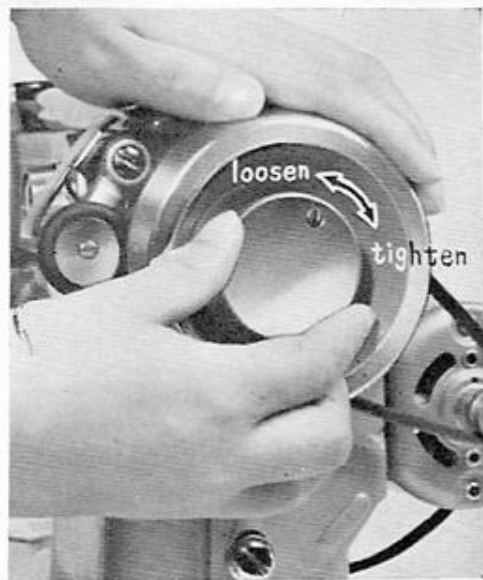

Fig. 4-1
- (a) Turn the clutch nut in the center of the hand wheel toward you to disengage the sewing mechanism (Fig. 4-1).